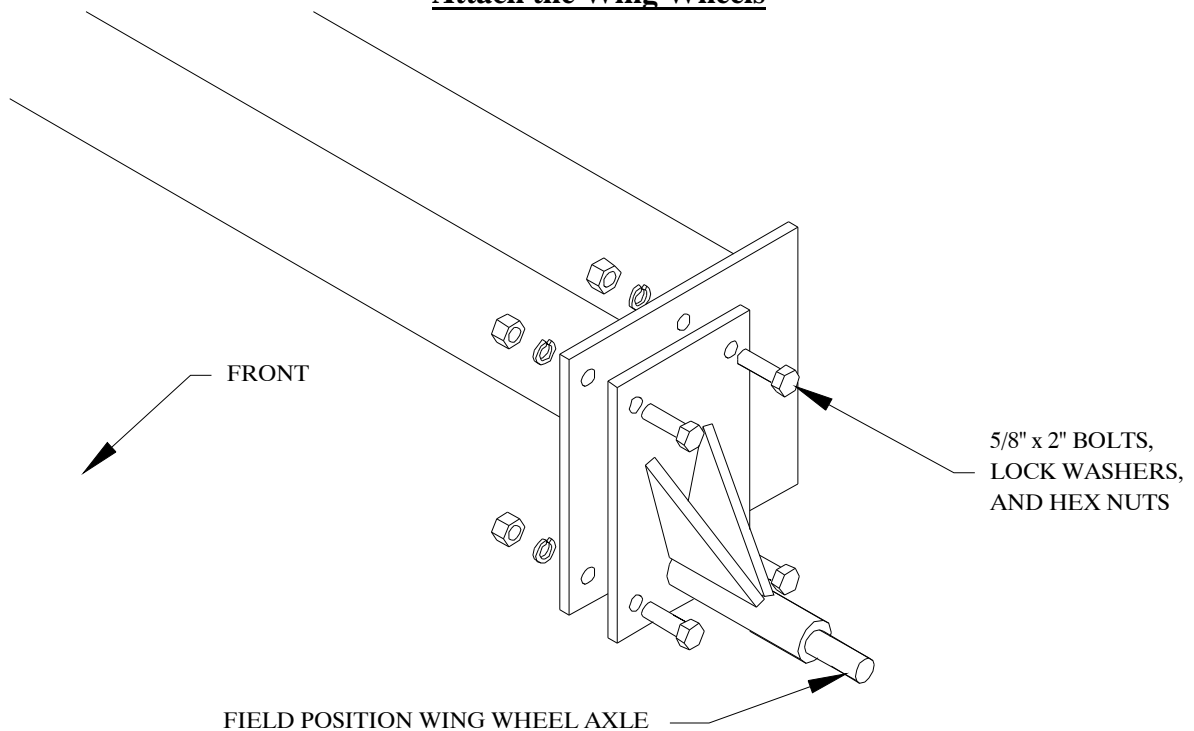

Figure 9
2. Attach the wings to the hinge knuckles using the remaining 1 3/4" x 10 1/16" hinge knuckle pins, 5/8" x 4" grade 8 bolts, and locking hex nuts. The wing axle end plate should be offset towards the front of the unit as shown in figure 9.
1. Mount the field position axles to the ends of the wings as shown in Figure 9 (note the location of the gussets). Use eight 5/8" x 2" bolts, lock washers, and hex nuts.